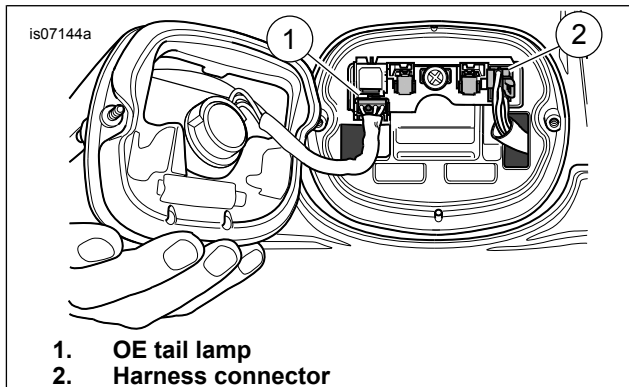

Figure 1. Preparing and Installing LED Lamp Assembly
2. See Figure 1. Remove the tail lamp connector (1) and tail lamp assembly from the circuit board.